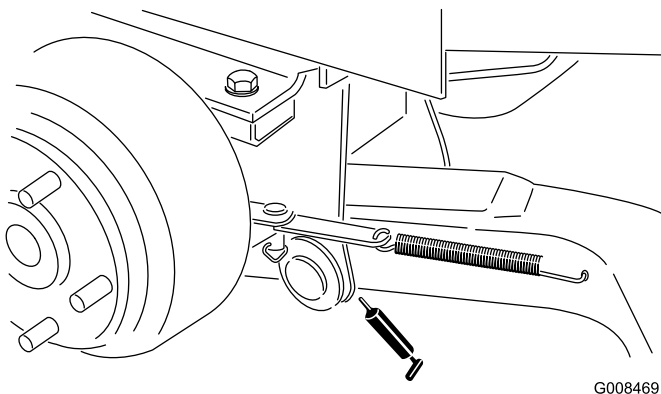

Figure 31
- Lift arm pivot bushings (Figure 31)